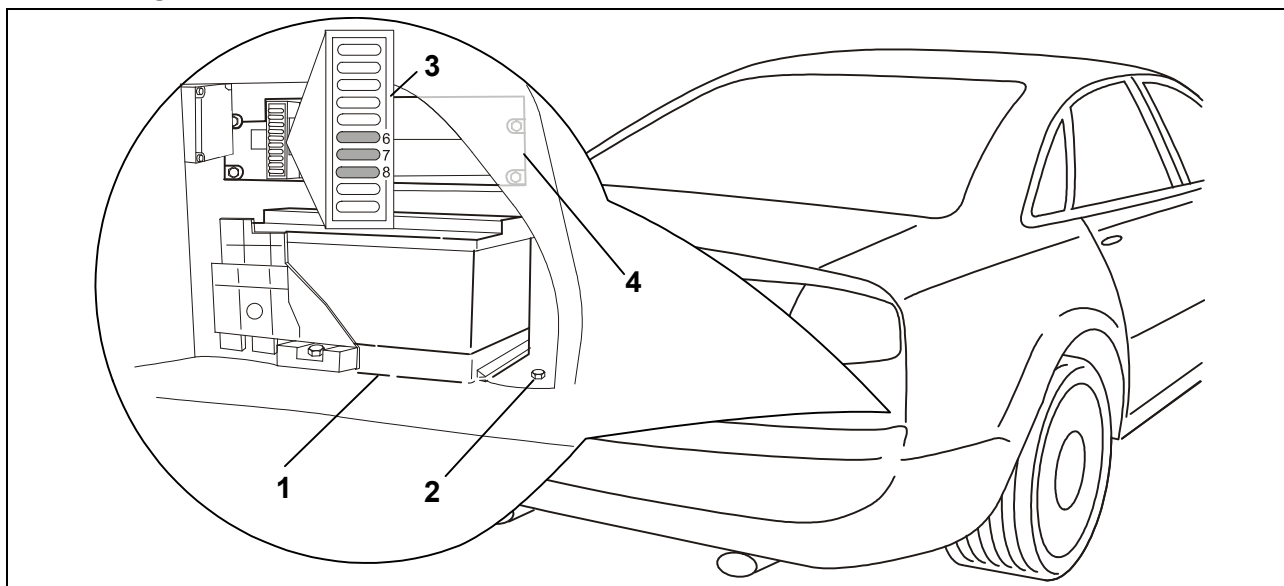

Fig. 4: Connecting the trailer module
12. Fasten the trailer module in the right-hand corner of the luggage trunk with two fastening screws (M5x10) below the battery holder plate (Fig. 4/1).
15. Connect the brown and brown/white cable to the vehicle's ground point (Fig. 4/2) with the eyelets.
16. Loosen the pink latch on the rear of the fuse holder (Fig. 4/3).
- connect the red, the red/black and the red/blue wire to positions 6, 7 and 8 of the 10-pin, to position 10, 11 and 12 of the 12-pin fuse holder (Fig. 4/3).
- connect the red, the red/black and the red/blue wire to positions 6, 7 and 8 of the fuse holder (Fig. 4/3), connect eyelet to battery-plus.
17. Lock the fuse holder (Fig. 4/3).
18. Refit the component carrier (Fig. 4/4) with the four fastening bolts.
25. Install the supplied fuses in the free positions 6, 7, and 8 (10, 11 and 12) of the fuse holder (Fig. 4/3).